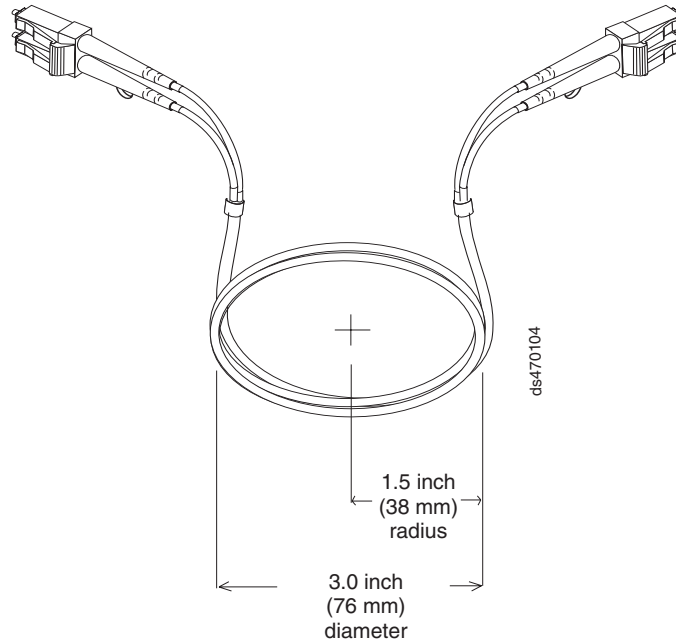

Figure 19. Best practice bending and looping specifications for fibre-optic cables
- When storing excess or unused fibre-optic cables, do not bend the cables to a diameter of less than 76 mm (3 in.), or a radius less than 38 mm (1.5 in.) or wrap them around themselves. See Figure 19 on page 51.